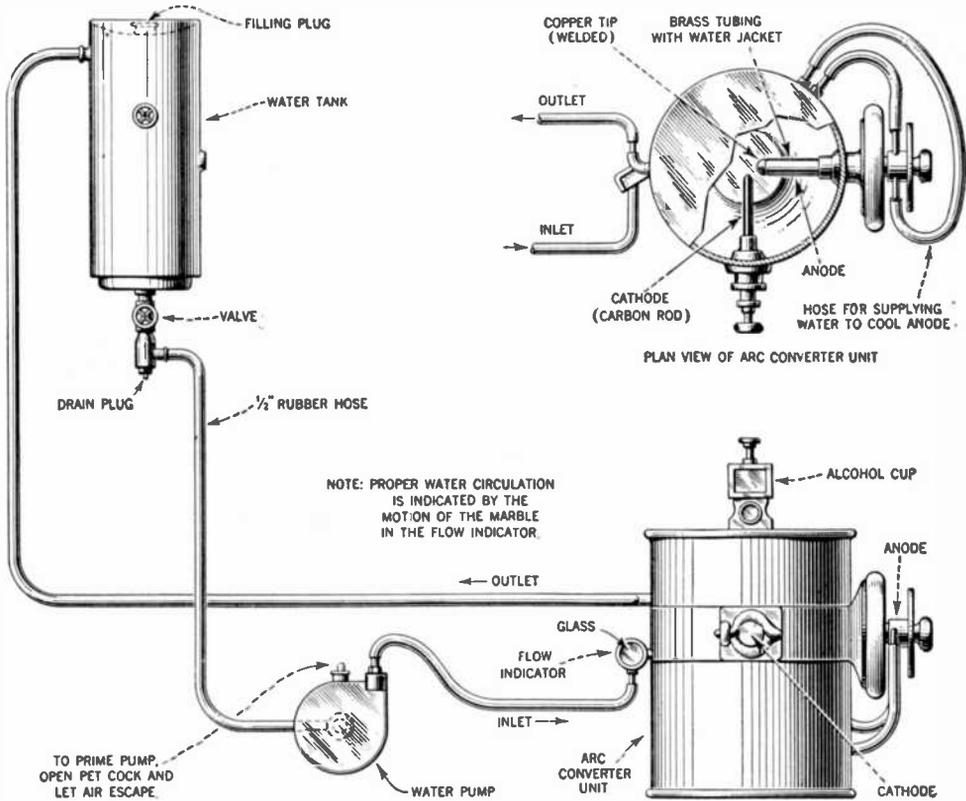

FIG. 30.—An illustration of the circulating system of the Federal arc transmitter.
*Answer.* The diagram in Figure 30 shows the general arrangement of the water circulating system and also a plan view of the arc converter.